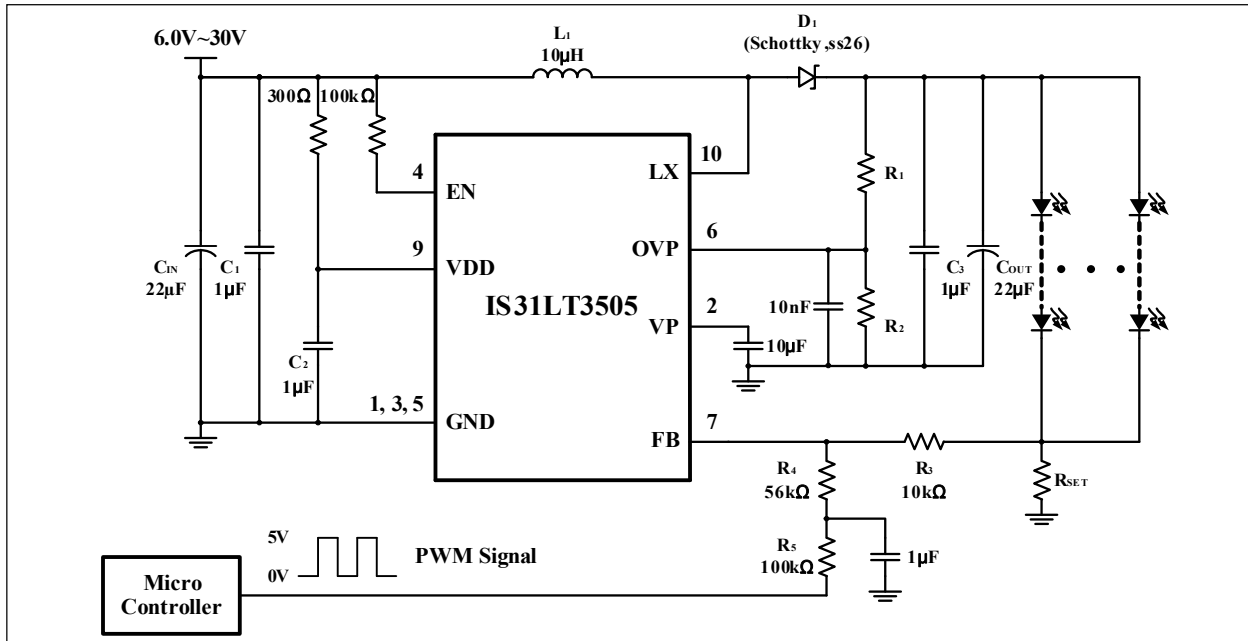

Figure 15 Application Circuit (Constant Current to Drive White LEDs With PWM Dimming)
A filtered PWM signal acts as the DC voltage to regulate the output current. The recommended application circuit is shown as Figure 15. In this circuit, the output ripple depends on the frequency of PWM signal. For smaller output voltage ripple, the recommended frequency of 5V PWM signal should be above 2KHz. To the fixed frequency of PWM signal and change the duty cycle of PWM signal can get different output current. The LED current can be calculated by the Formula (3). The internal feedback voltage V_{FB} is 0.3V (Typ.).
When it's the 5V PWM signal, the value of R3 should be 10kΩ. Refer to Figure 15.